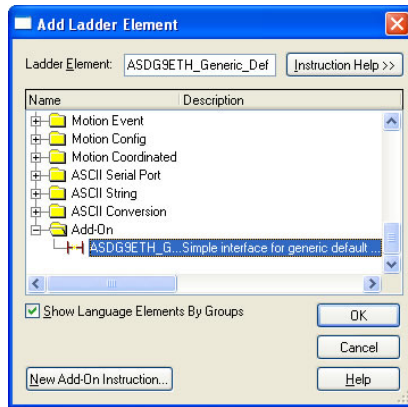

Figure 86: Add Generic Default AOI
- 8) Select the generic default I/O AOI in the Add-On folder. Refer to Figure 86.